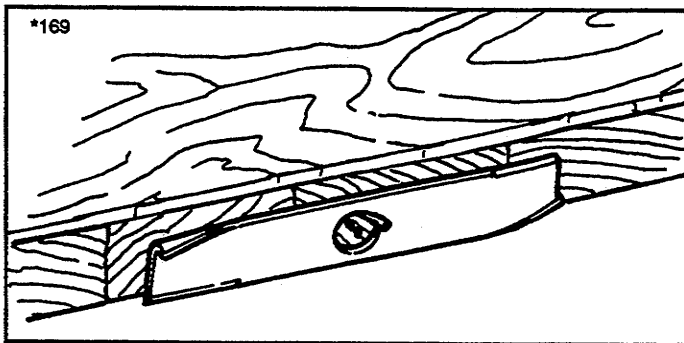

Figure 28. Balancing The Blade
5. Balance the blade as shown in figure 28. Center the blade hole on a nail lubricated with a drop of oil. A balanced blade will remain level.